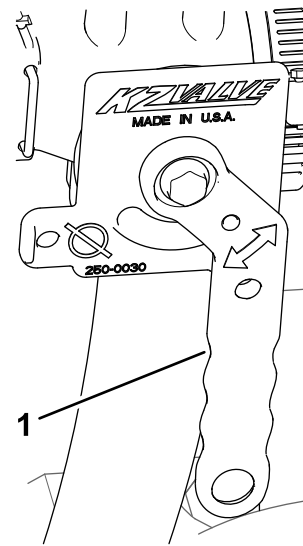

Figure 42
4. Rotate the handle of the eductor shutoff valve to open position (Figure 42).
5. Close the eductor shutoff valve; refer to Figure 42 of Starting the Eductor (page 22).